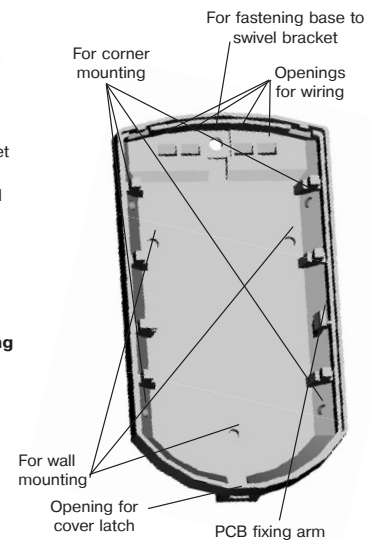

Figure 2 – The Detector Base and the Swivel Bracket
- Unfasten the latch through the opening, which is situated downside the Detector case by means of screwdriver and put off the Detector cover (Figure 2).
- Drill the holes in the base of the Detector for wiring and fastening the Detector (Figure 2).